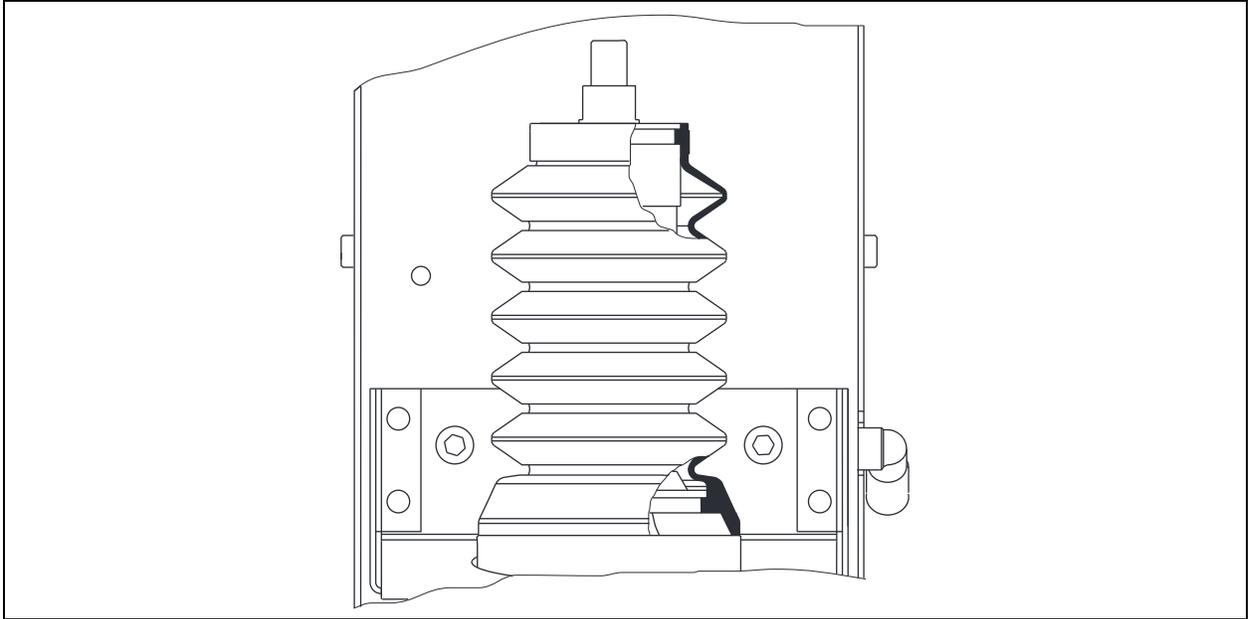

Fig. 17 Bellows position
- When changing the reamer, only use tools with a compatible width across flats. AF21 motor protection cap (6), AF17 reamer.
- Ensure that the bellows (5) is in the correct position.
□ Fig. 17 Bellows position on page EN-25
- 1 Attach the motor protection cap (6).
- 2 Attach the reamer (1) to the pneumatic motor (4).
- 3 Use the AF17 fork wrench (2) to tighten the reamer (1) (minimum tightening torque 20 Nm) while holding it in place with an AF21 fork wrench (3).